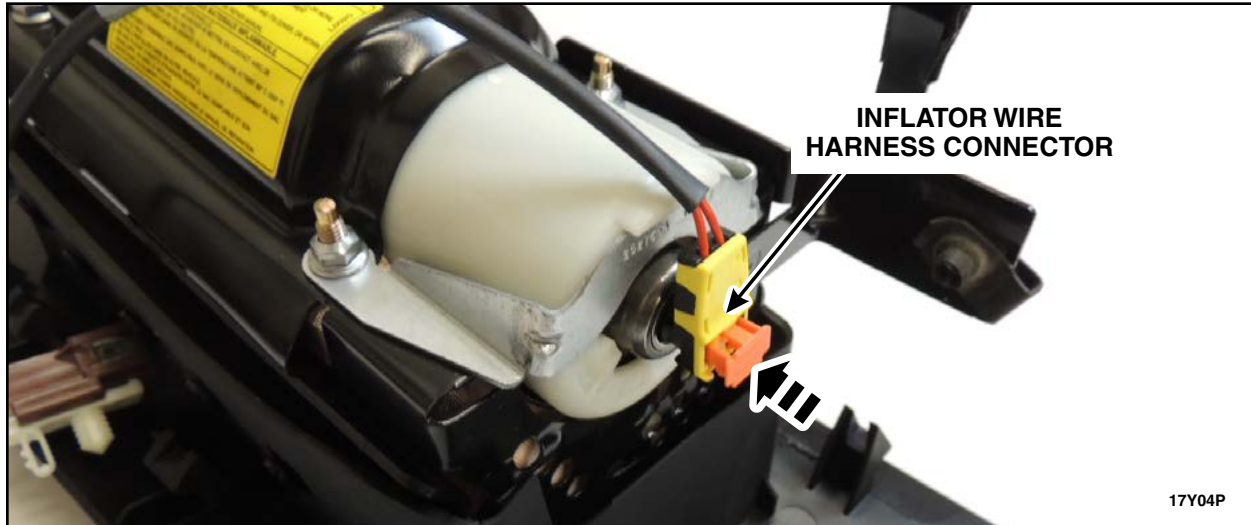

FIGURE 18
12. Align the T-shape index on both the wiring harness electrical connector and the airbag inflator, connect the *new* airbag wiring harness to the inflator module and fully seat the orange tab. See Figure 18.
13. Ensure the connection between the wiring harness electrical connector and the airbag inflator by pulling gently on the wiring harness to ensure it is properly seated. See Figure 18.